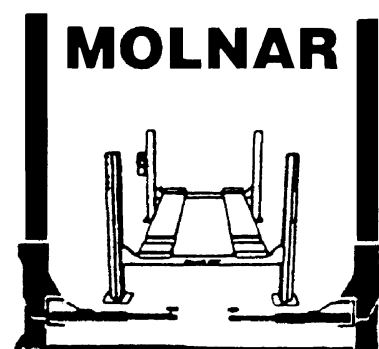

FIGURE 12
13. The safety rail is bolted to the top of the pillar in the hole closest to the back of the post using bolt supplied [Figure 12] and secured with nut and locknut. There must be a clearance of approximately 2mm between the safety rail and the inside top of the post, so that the rail can move freely.